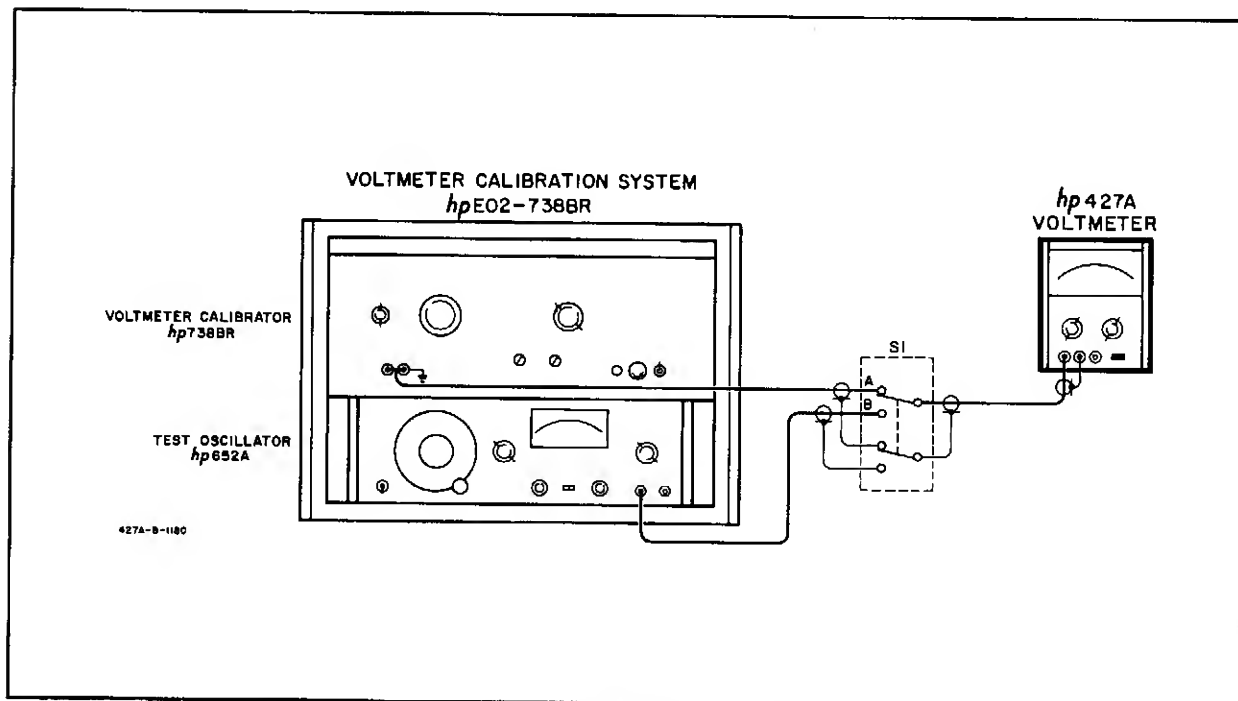

Figure 5-1. AC Accuracy and Frequency Response Check
5-10. Connect the test oscillator, and the voltmeter calibrator as shown in Figure 5-1.
- b. Set S1 in Figure 5-1 to position A.
- a. Set S1 in Figure 5-1 to position B. Set the Model 427A RANGE to 0.01.